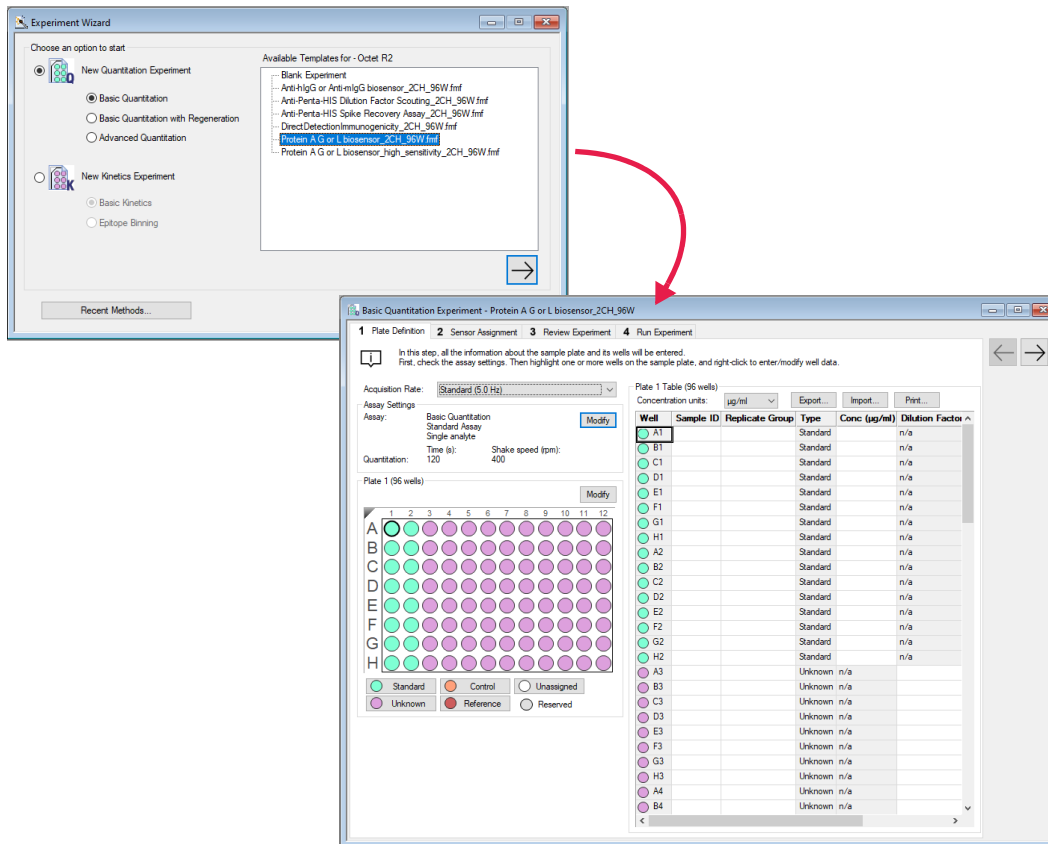

Figure 5-1: Selecting an Experiment Type in the Experiment Wizard
2. In the **Experiment Wizard**, select **New Quantitation Experiment** (see Figure 5-1, left).
The **Experiment** dialog box appears (Figure 5-1, right).